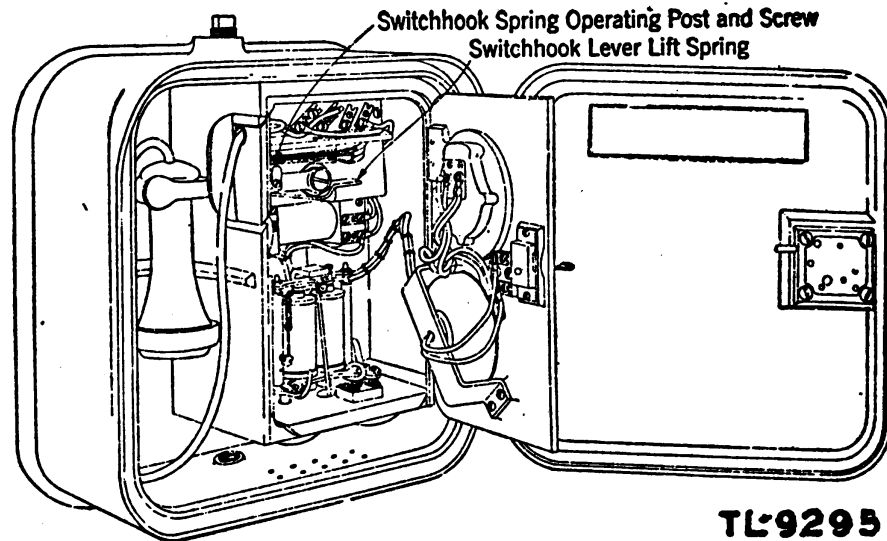

Figure 108. Outdoor set.
a. DESCRIPTION. Outdoor telephones are wall sets inclosed in a heavy metal case equipped with a waterproof locking door to protect the telephone from rough usage and the effects of weather. (See fig. 108.)